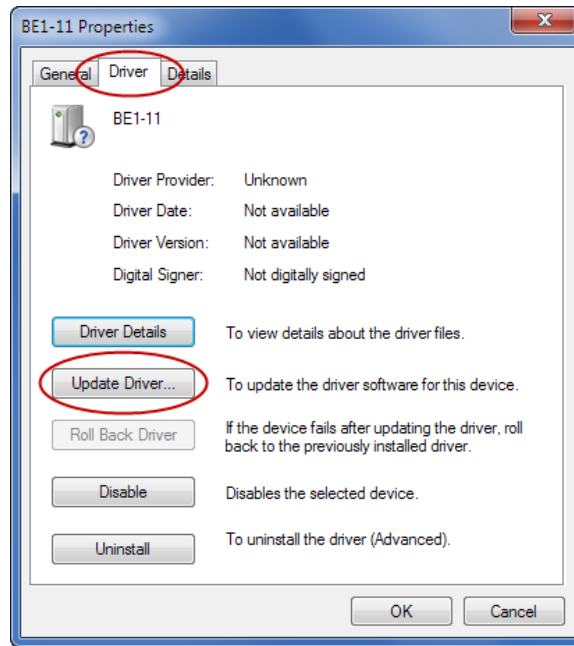

Figure 45-3. BE1-11 Properties
Step 3. In the Properties windows, select the Driver tab and click Update Driver. See Figure 45-3.